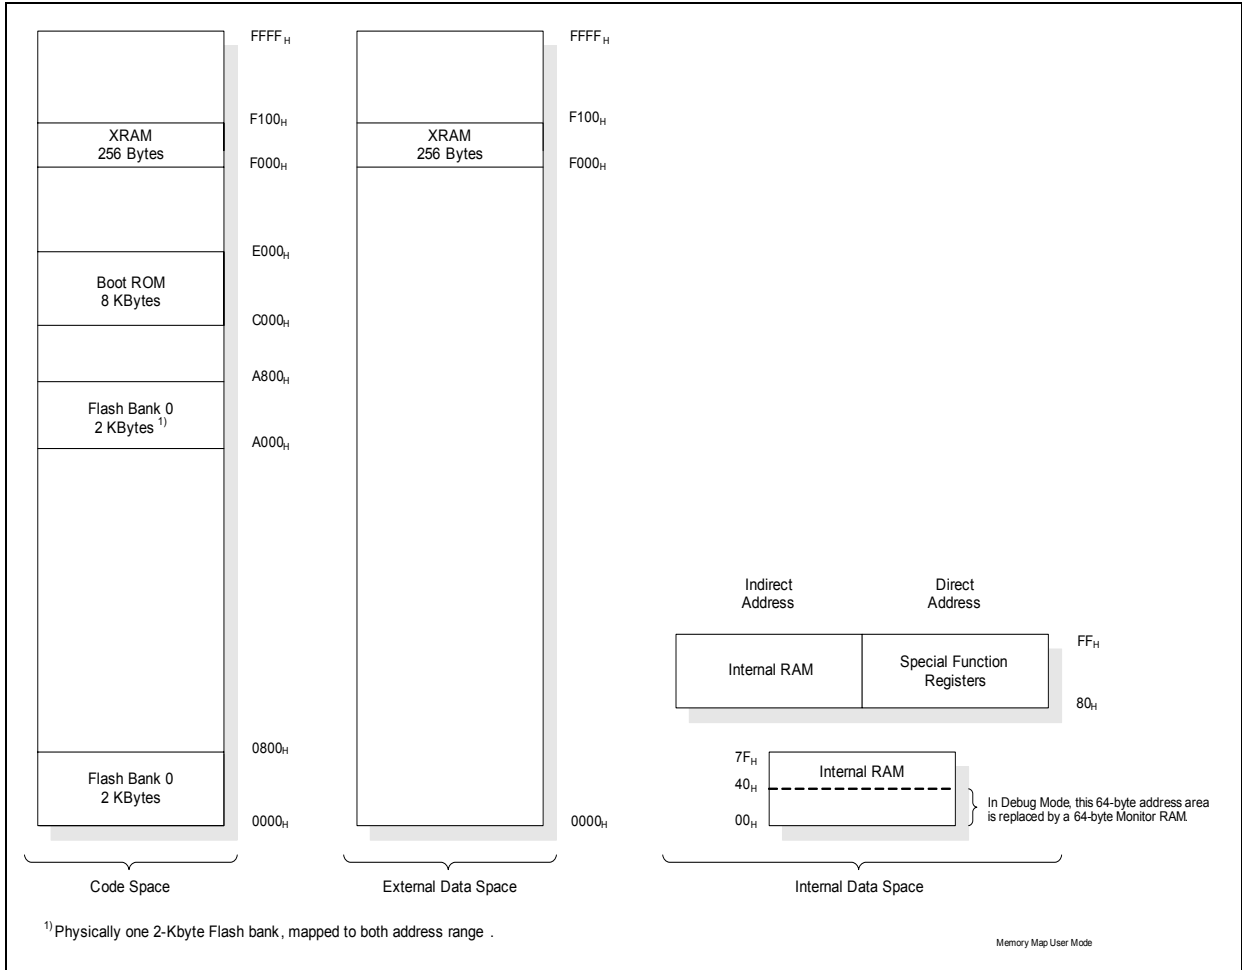

Figure 6 Memory Map of XC822/824 with 2 Kbytes of Flash memory
**Figure 6** illustrates the memory address spaces of the 2 Kbyte Flash devices. There are two 1-Kbyte sectors in this device. **Figure 7** illustrates the memory address spaces of the 4 Kbyte Flash devices. This device has two 1-Kbyte sectors, two 512-byte sectors, two 256-byte sectors and four 128-byte sectors. **Figure 8** shows the Flash sectorization for 2 Kbyte and 4 Kbyte Flash devices.